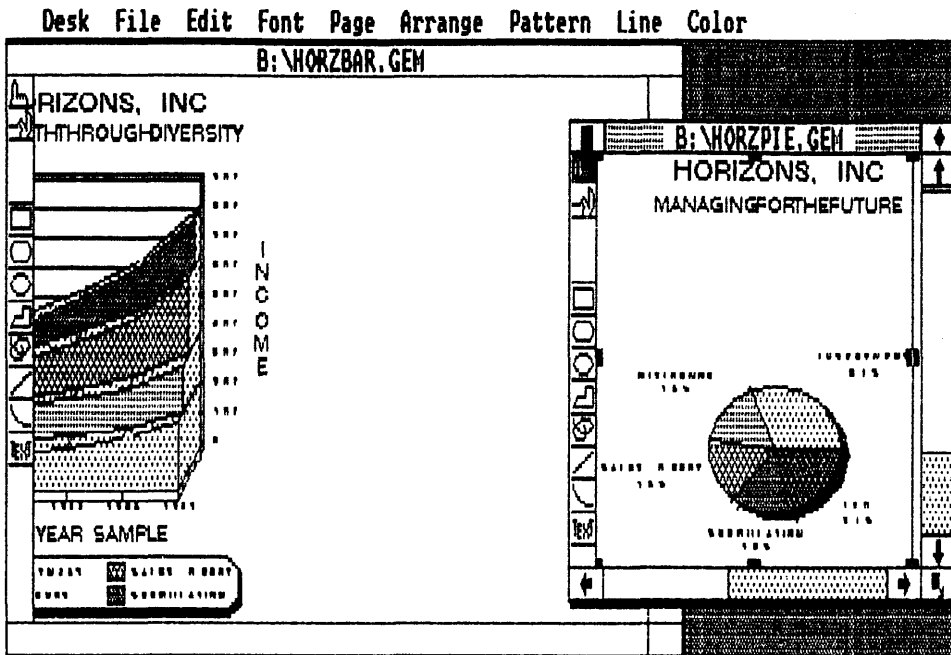

Fig. 5-8. GEM Draw can be used for combining two separate GEM Graph graphs onto the same page.
- Drag the grouped second graph into the window of the first graph (Fig. 5-8)